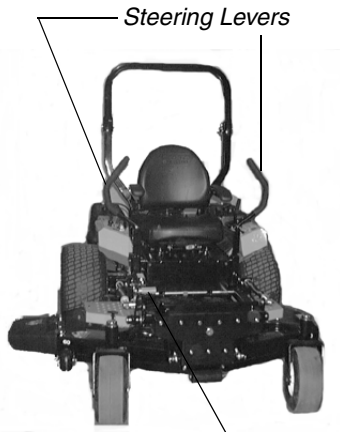

Figure. 3 *Foot Pedal Lift*
3. **Left and Right Steering Levers:** (See Figure 3.) These hinged levers open out to the side in any position to permit the operator to be seated or to leave the mower's seat. The operator, when seated, can pull the levers up to the operating position, a comfortable forearm's length away. These levers control all of the movements of the mower. Pushing both levers forward causes the mower to move forward. Pulling both levers back causes the mower to move backward. Pushing one lever ahead of the other lever causes the traction wheel on the side where the lever is ahead to rotate faster than the other traction
6. **Foot Pedal Lift:** (See Figure 3.) Located on the right front corner of the mowing deck. A two pedal mechanism is provided whereby one pedal (first) is used to raise, to momentarily hold the implement at a desired height (if needed), and to latch it in the transport or maximum height setting. A second pedal is used to unlatch the mechanism from the transport or maximum height setting, to